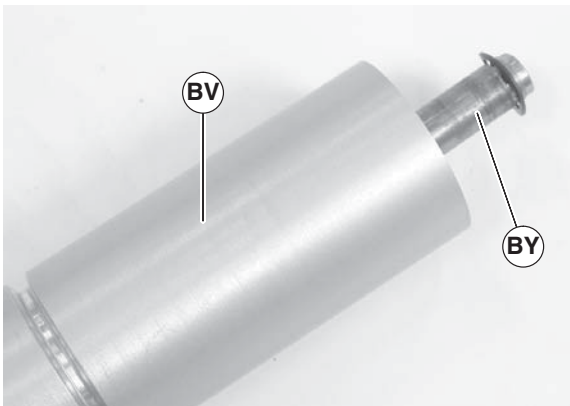

Figure 74
- Slide the shaft assembly (Figure 74, item BY) out of the pulley (BV).